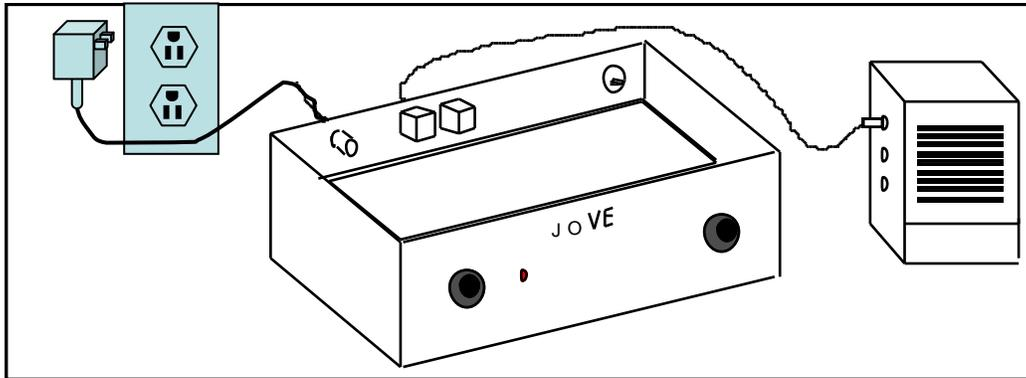

Figure 16. Test set-up, radio with the cover off connected to the AC Adapter and the amplified speaker
2.  Before connecting power turn the JOVE receiver power switch OFF. Connect either headphones or an amplified speaker (Radio Shack 277-1008 or 40-218, or equivalent) to one of the audio output jacks on the receiver rear panel. These jacks accept 3.5 mm (1/8 inch) monaural or stereo plugs. Connect the JOVE receiver to the 12 volt power source as shown in Figure 16. First connect the power cord to the receiver and then plug the supply into the wall outlet. (It is not recommended to plug a live power plug into the receiver.)